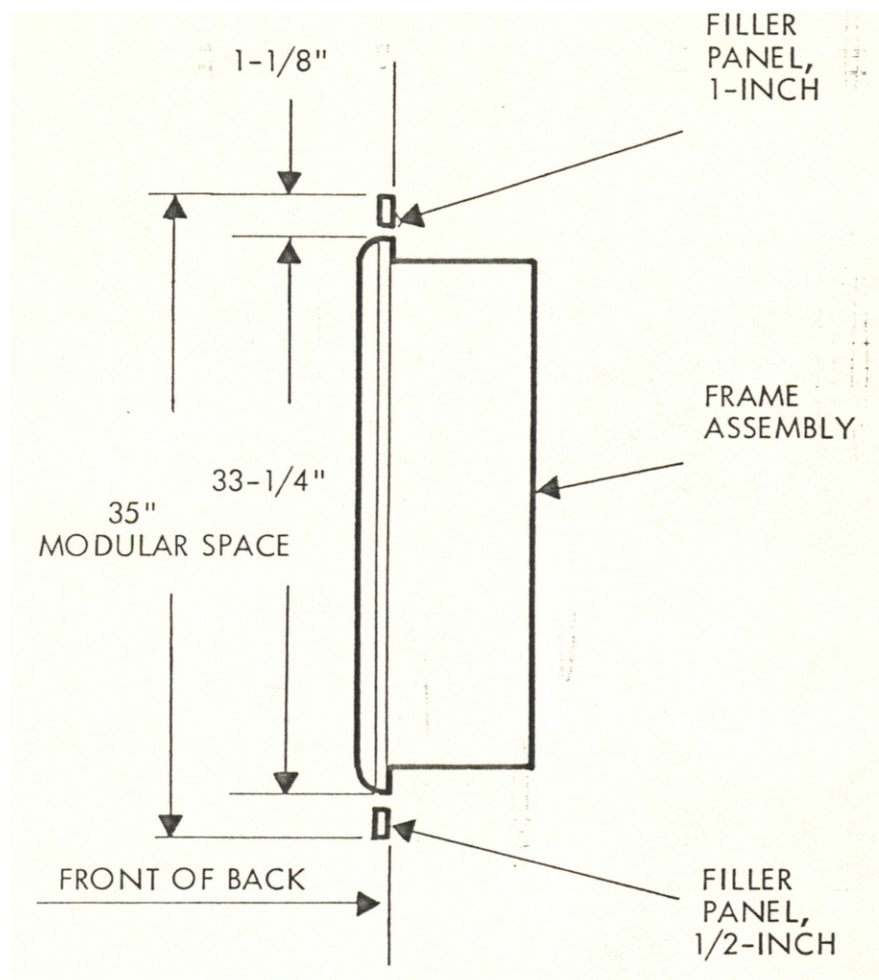

Figure 3. SIDE VIEW OF CP-100 READY FOR INSTALLATION IN RACK
- Step 1: Mount the CP-100 in the rack leaving a space of 1-1/8 inches at the top of the frame, and 1/2 inch at the bottom of the frame for the filler panels. (See figure 3.)
- Step 3: Refer to figure 3 and install the two filler panels supplied with the adaptor kit. The 1-inch panel is mounted at the top end of the frame and the 1/2-inch panel is mounted at the bottom end of the frame.